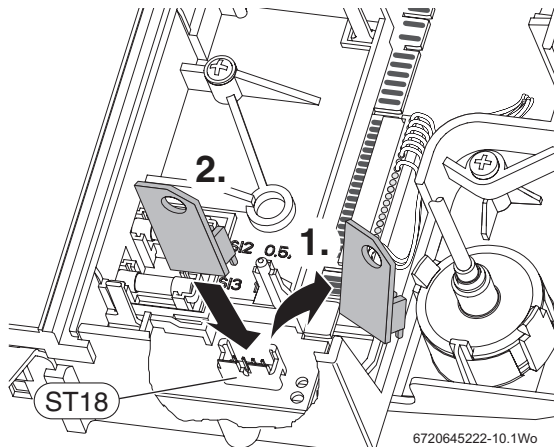

Fig. 14 Fitting new code plug
1. Refer to figure 14. Remove the code plug from the controller, cut the tie securing the plug to the boiler chassis and discard the plug and tie.